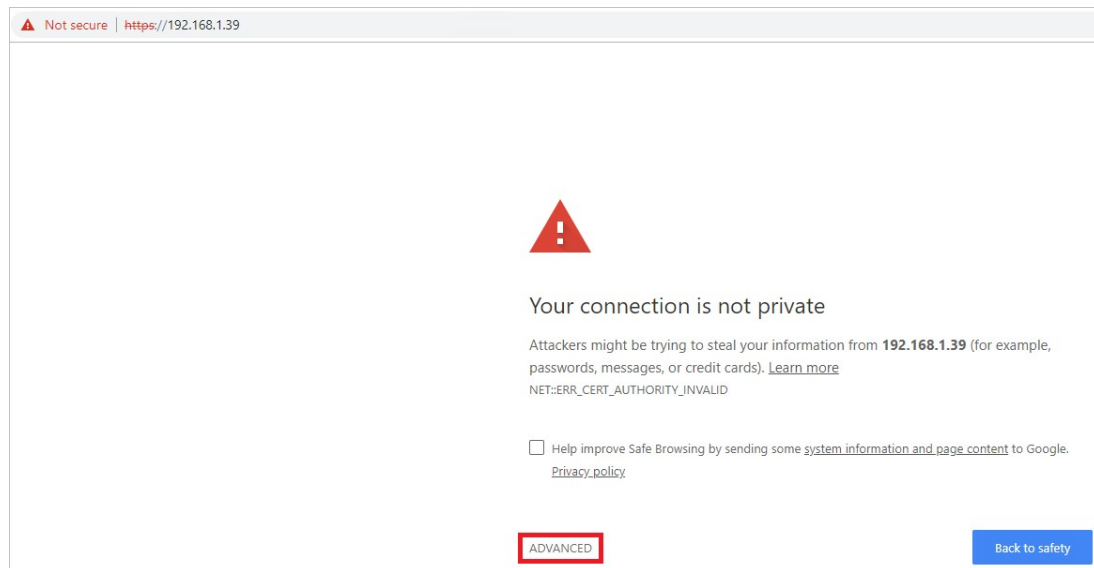

Figure 23
4. Click 'Advanced' at the bottom of the screen shown in Figure 23.